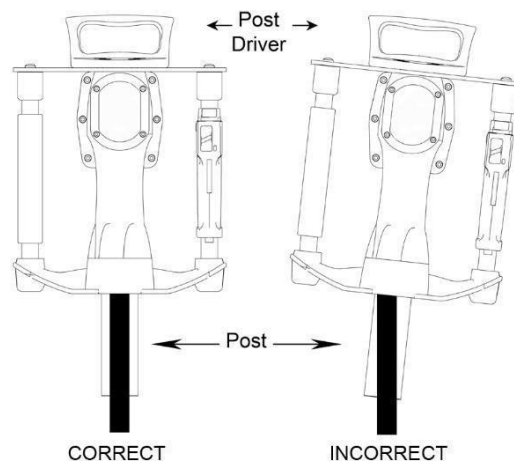

Figure 1: Post driver level/square example
- Lift the post driver onto the post, then ensure that the driver is level with the post and the post is centered up in the barrel of the post driver. To keep the driver square to the post, use the correct adapter sleeve. **If not aligned properly, you could cause damage to the machine or your post.** See Figure 1.